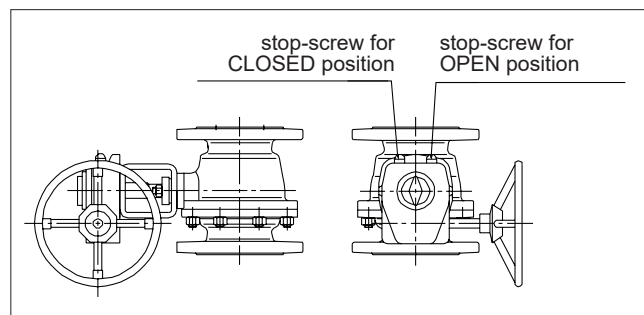

Fig. 30 Open and closed positions of the M actuators
- Adjust the ball open and closed positions by means of the actuator stop screws located at both ends (see Fig. 30). An accurate open position can be seen in the body flow bore. Check that the yellow arrow on the actuator indicates the ball flow opening position. **Watch out for your hand!**